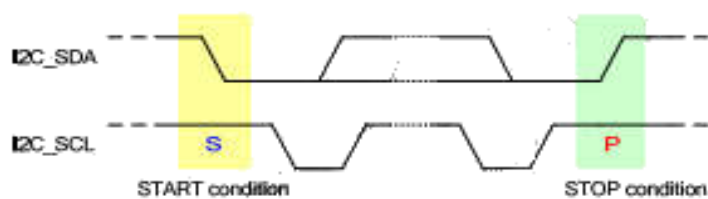

Fig. 2 Definition of START and STOP Condition
Both I2C\_SDA and I2C\_SCL lines remain HIGH when the bus is not busy. A HIGH-to-LOW transition of I2C\_SDA while I2C\_SCL is HIGH, is defined as the START condition (S). A LOW-to-HIGH transition of I2C\_SDA while I2C\_SCL is HIGH, is defined as the STOP condition (P). The START and STOP conditions are illustrated in Fig. 2.